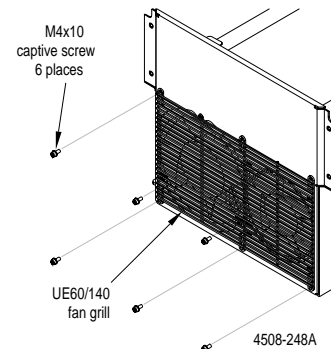

Figure 3.30: Fan Connections
- 2) Remove the fan grill which is secured by 6 off M4x10 Phillips screws see figure 3.30.